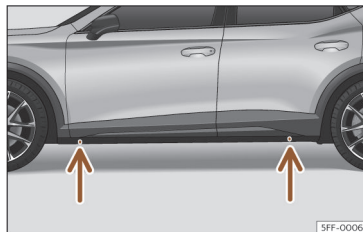

Fig. 237 Jack position points.
- Look on the strut for the mark of the jack support point (sunken area) closest to the wheel to be changed >>> **Fig. 237**.